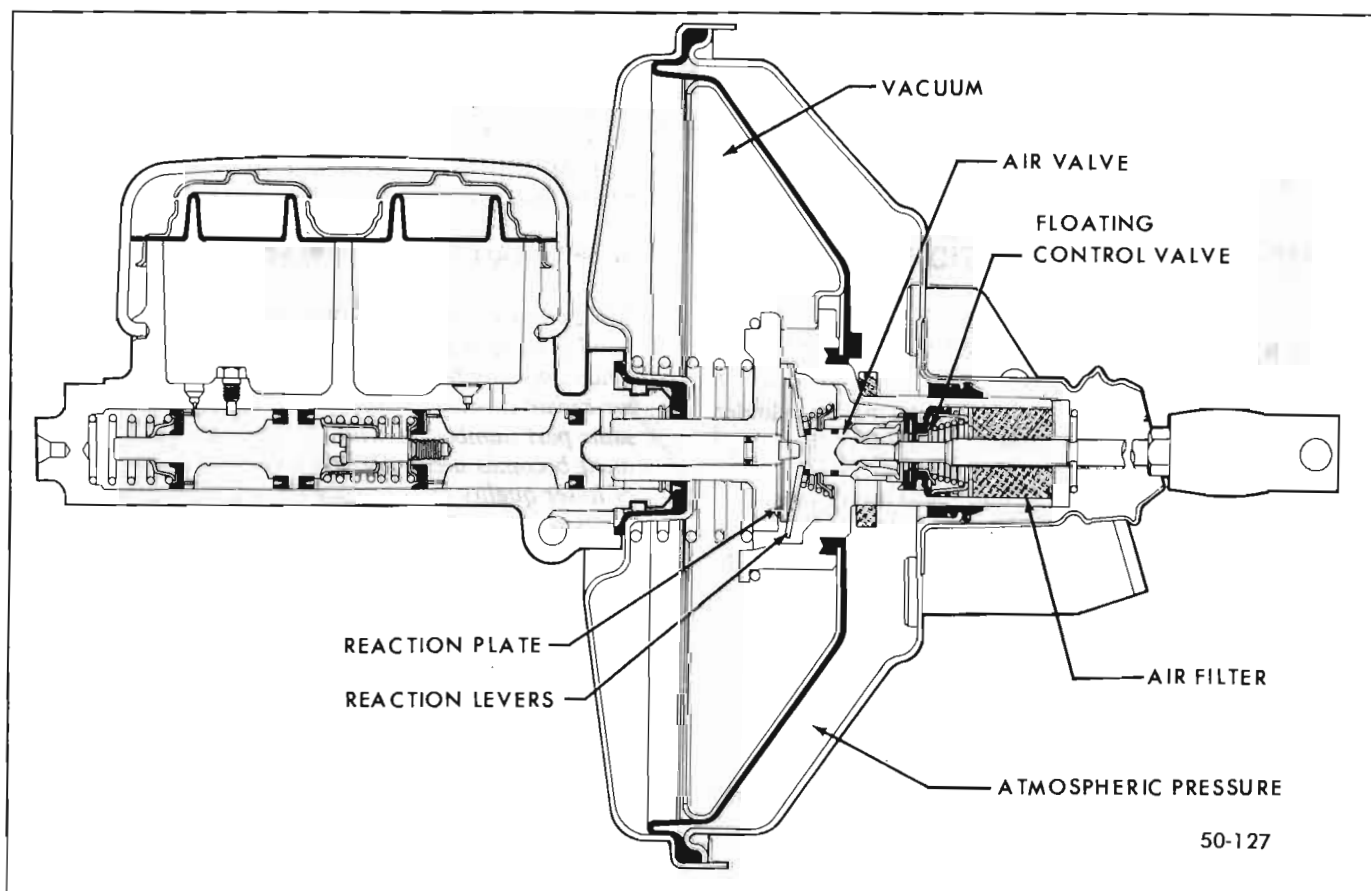

Figure 50-98 Power Brake Unit - Applying Position
2. Applying Position. As the pedal is depressed, the push rod carries the air valve away from the floating control valve. See Figure 50-98. The floating control valve will follow until it is in contact with the raised seat in the power piston. When this occurs, the vacuum is shut off to the rear side of the power piston and air under atmospheric pressure rushes through the air filter and travels past the seat of the air valve and through two passages into the housing to the rear of the diaphragm.